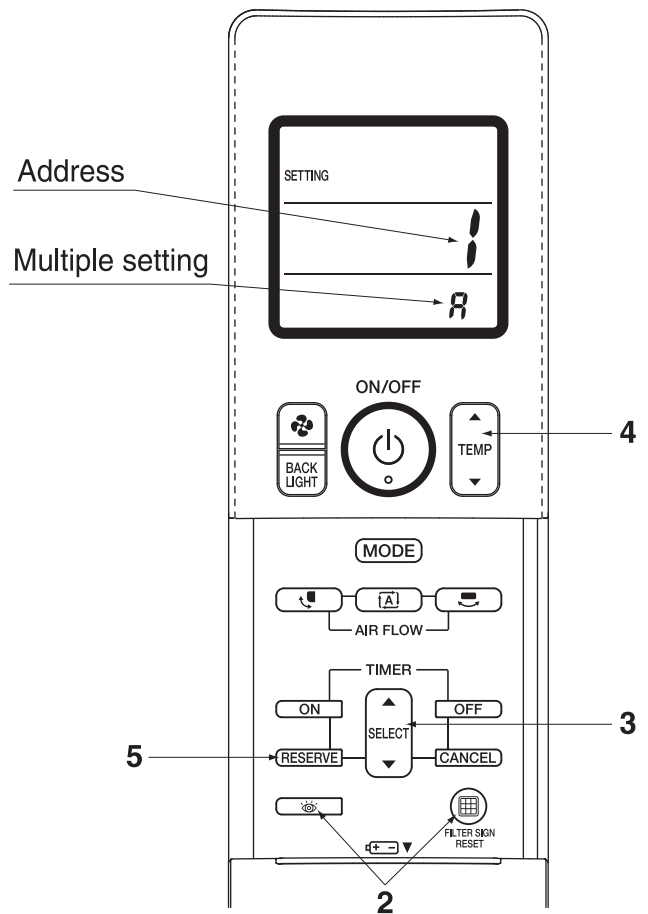

Fig. 3
2. Press the  and  buttons at the same time for 4 seconds or more to go into the FIELD SETTING mode. (The liquid crystal display on the remote controller is shown in Fig. 3.)